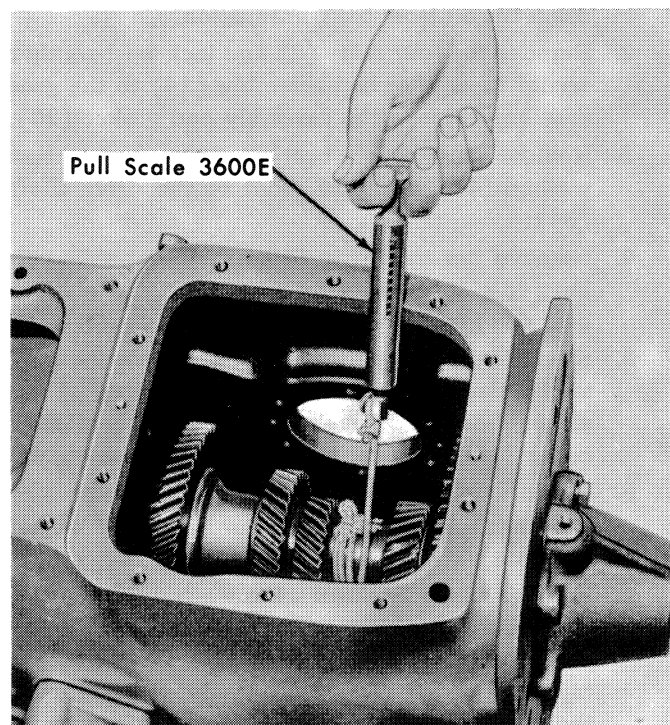

Figure 31—Checking the Main Shaft Preload
20. Position the forks in neutral and check the main cluster gear preload as shown in Figure 31. With the cord wrapped around the main cluster gear (between gears), establish a pull of 8-10 lbs. on the double clutch transmission. Preload can be